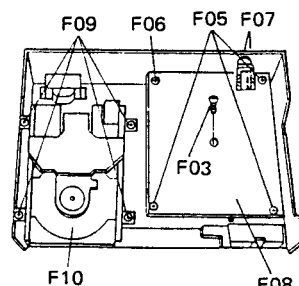

Fig. 2.7
- (1) Refer to Fig. 2.7.
- (2) Remove the Front Panel Ass'y referred to in item 2.3.
- (3) Remove F03, F05, F06 and F07, then F08 (Main P.C.B. Ass'y).
- (4) Remove F09, then F10 (Disc Mechanism Ass'y).